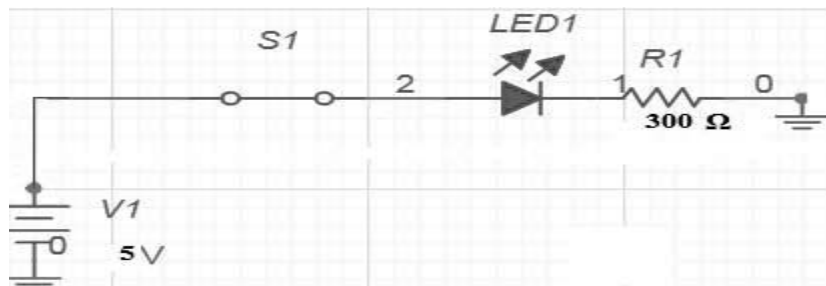
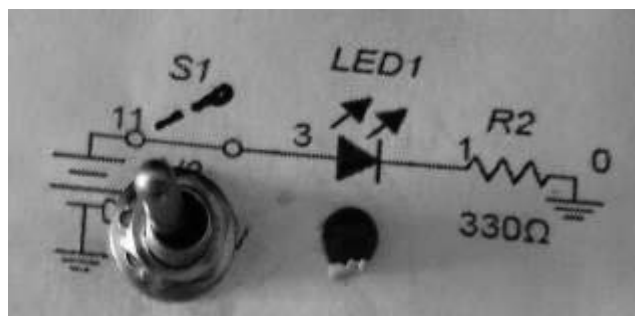
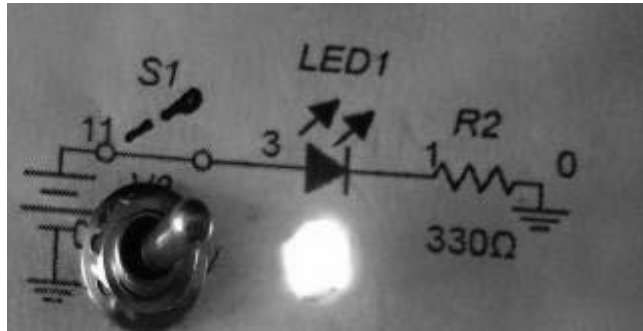

Fig 1.3 Circuit diagram of Simplex communication using LED and switch
Fig 1.4 Experimental set up of simplex used in laboratory when S1 is open
Fig 1.5 Experimental set up of simplex used in laboratory when S1 is closed
- a) Sample circuit diagram(Figure 1.3)/experimental set up (Figure 1.4 and Figure 1.5)
1. Connect the electrical circuit as shown in figure 1.3.